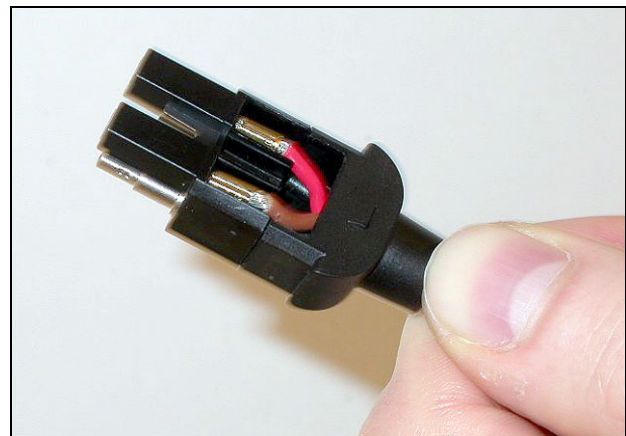

figure 22.34: Mounting block/back housing assembly
- 29 Put the mounting block in the back housing (see figure 22.34)